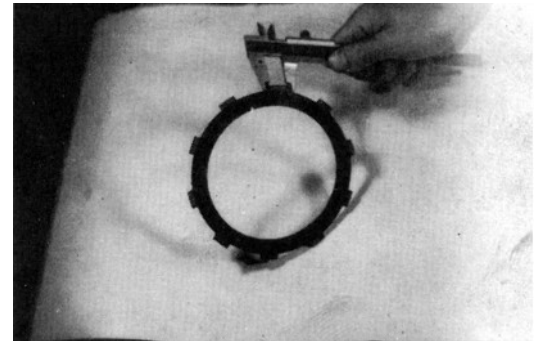

Fig. 58 Checking friction plate
2. Check for damaged, worn or uneven arms on friction plates. (Fig. 58, 59)